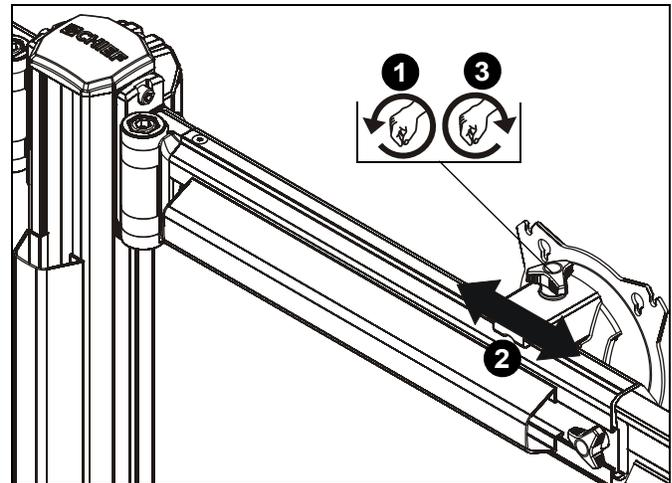

**Figure 26**
**NOTE:** Be sure the faceplate adjustment knob is on top when reinstalling the faceplate assembly. (See Figure 26)
**NOTE:** Faceplate assemblies may be reattached on the fixed part of the arm. (See Figure 26)
4. Place faceplate assembly on array arm at desired mounting position. (See Figure 26)
5. Slide removable plate back into slot at bottom of faceplate assembly. (See Figure 26)
6. Reinstall hex head bolt removed in Step 1 to secure faceplate assembly to array arm. (See Figure 26)